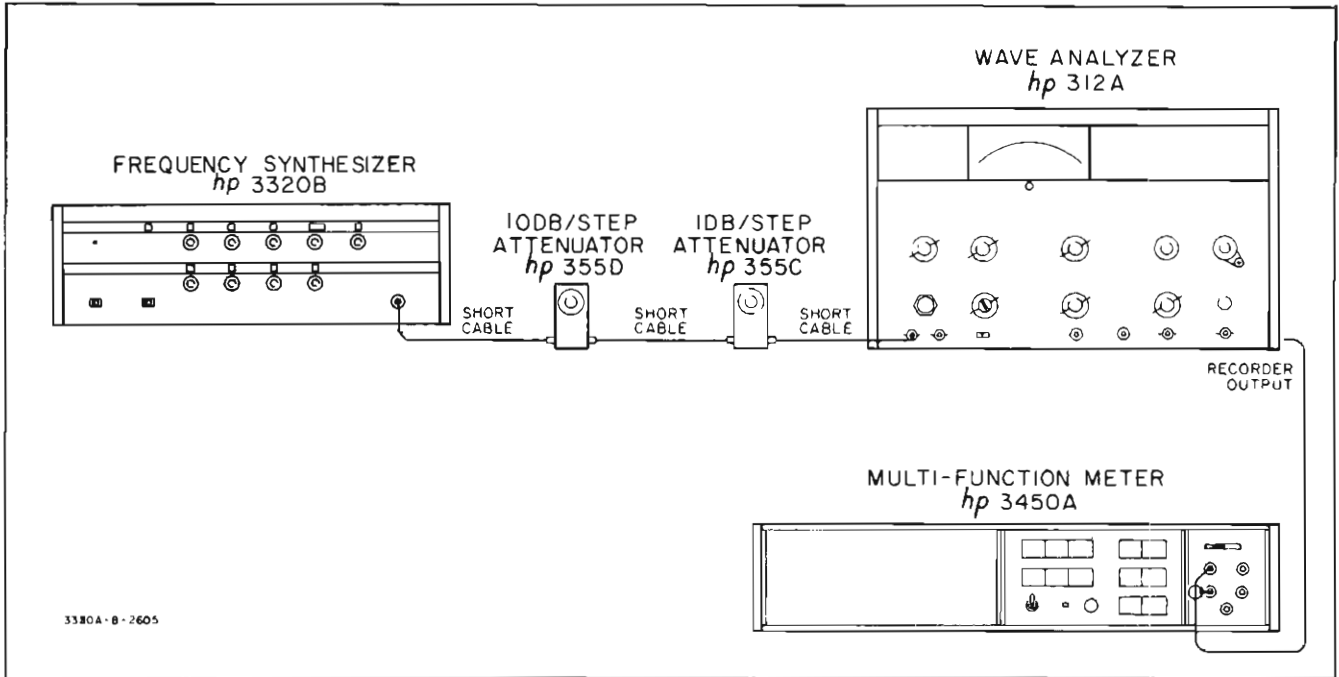

Figure 5-6. 3320B Attenuator Accuracy.
a. Connect the equipment as shown in Figure 5-6.